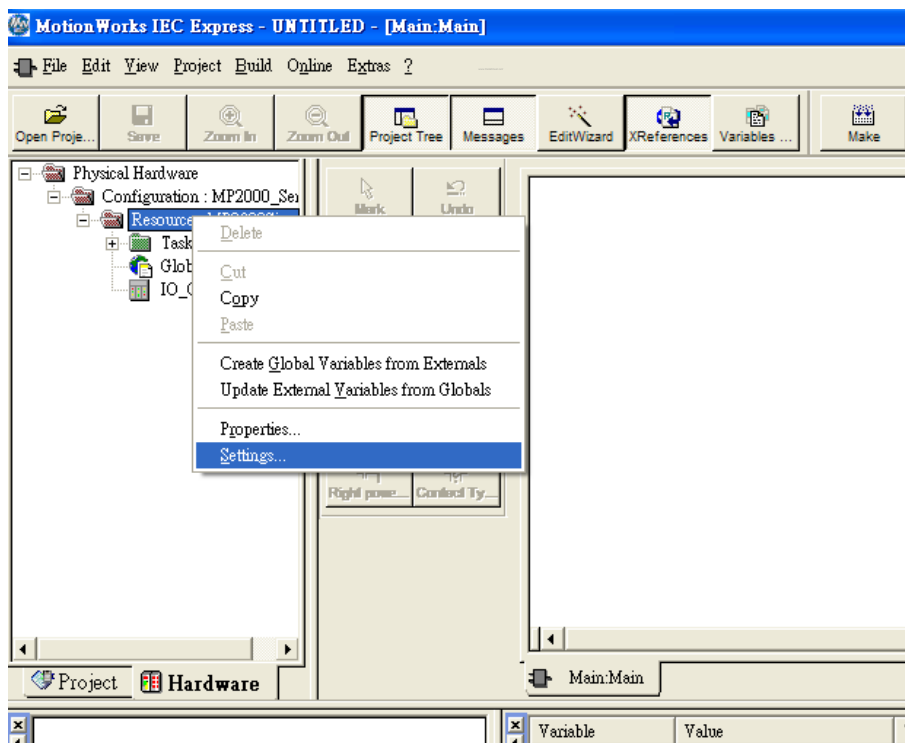
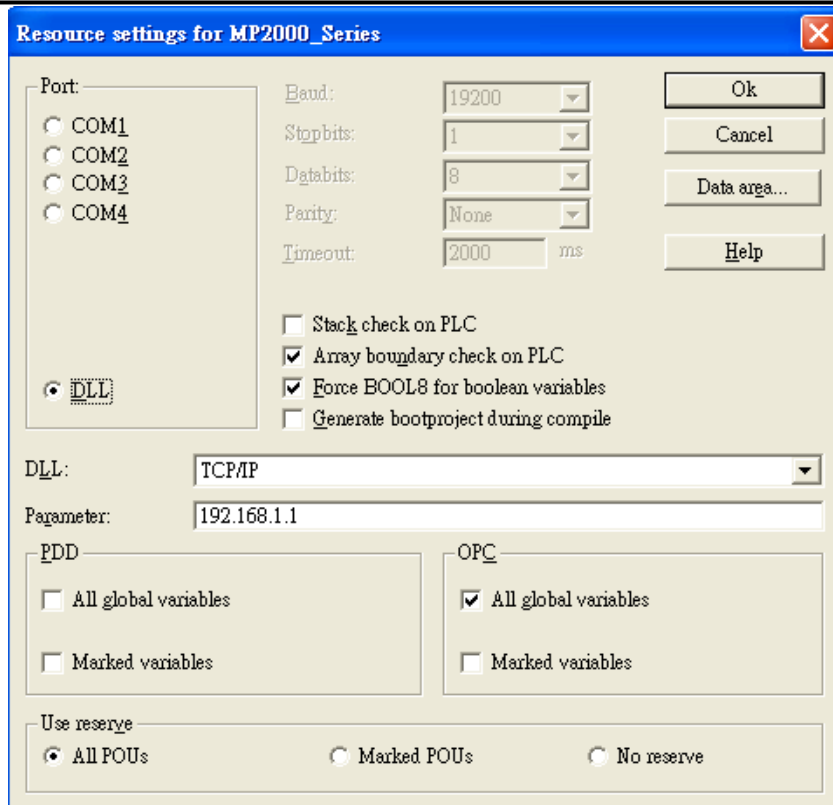

Fig. 3 Motion Works IEC Express – Settings
Fig. 4 Resource Settings
**Step 3.** When download Project to device (MP2300Siec), please go to (Fig. 3) Resource->Settings to access setting dialog (Fig. 4) for setting MP2300Siec IP address.